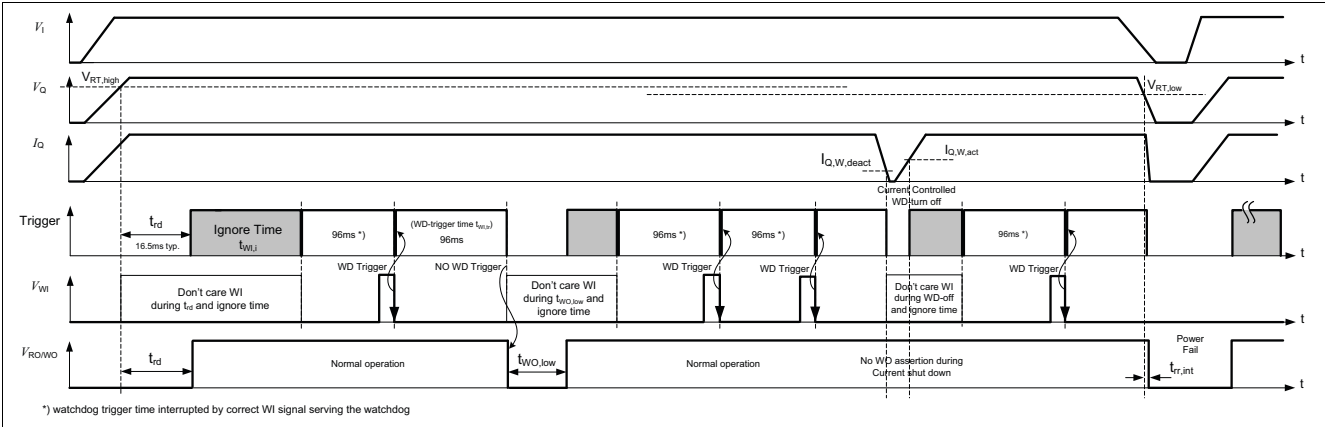

Figure 8 Typical watchdog timing diagram, watchdog and reset modes
Figure 8 shows the state diagram of the watchdog (WD) and the mode selection. After power-on, the reset output signal at the “RO/WO” pin (microcontroller reset) is kept low for the reset delay time t_{rd} . With the low to high transition of the signal at “RO/WO” the device starts the watchdog ignore time $t_{WI,i}$. Next, the WD starts the watchdog trigger time (time frame within a trigger at WI must occur).